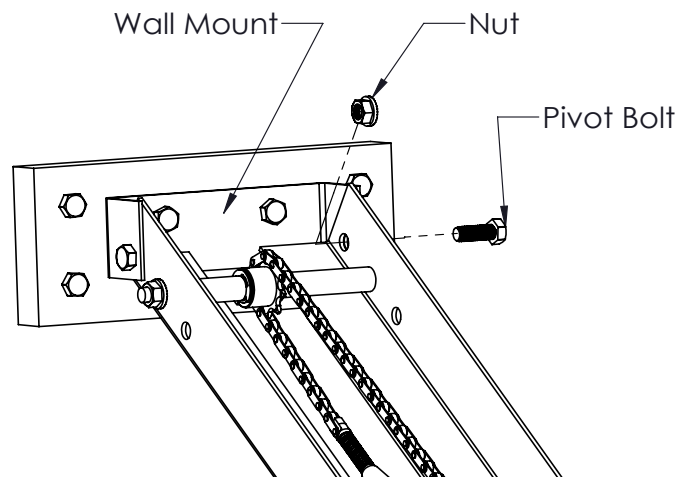

FIGURE 4
1. Raise the front end of the rail assembly to the wall mount and loosely install two 5/16 bolts and nuts to act as pivot points.(Figure 4)